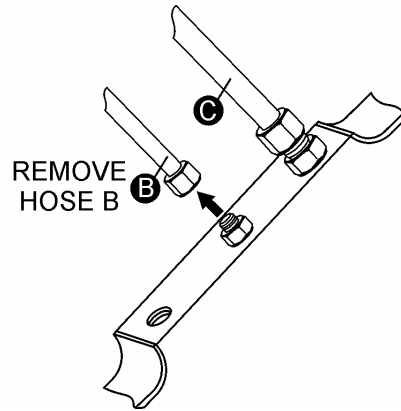

Figure 8. Hose B Removal
- Remove existing fitting (P/N 57502) as shown in Figure 8. Discard fitting as it will no longer be used.